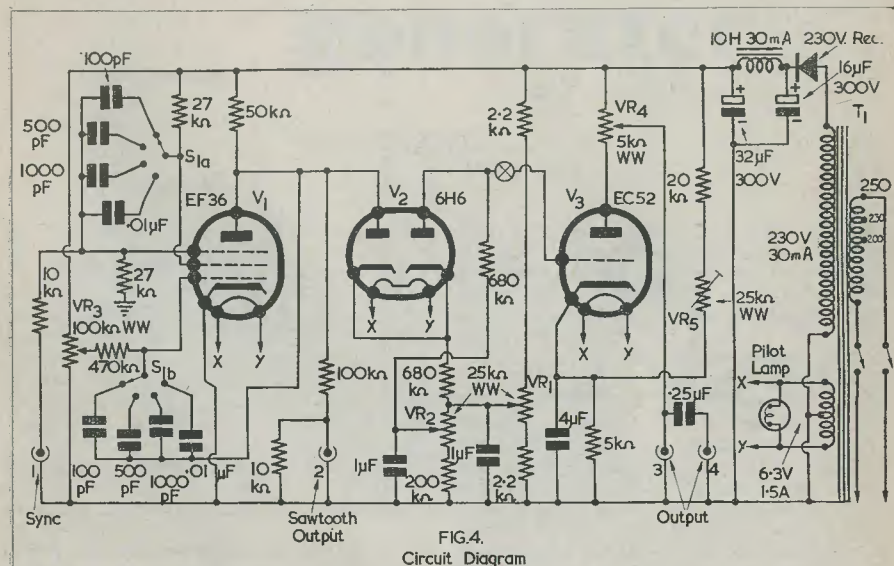

FIG. 4.
The circuit of the square wave generator is shown in Fig. 4. It will be seen that V_1 is an EF36, this valve being chosen for three reasons: (1) it is easy to obtain on the surplus